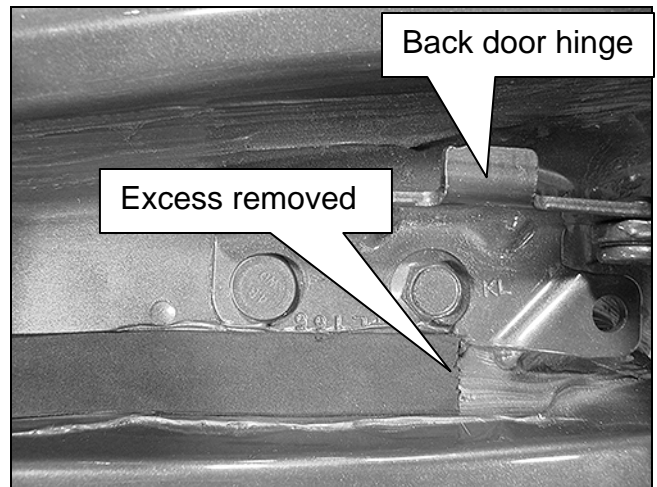

Figure 13
- d. Cut the excess foam tape to approximately the length shown in Figure 13.